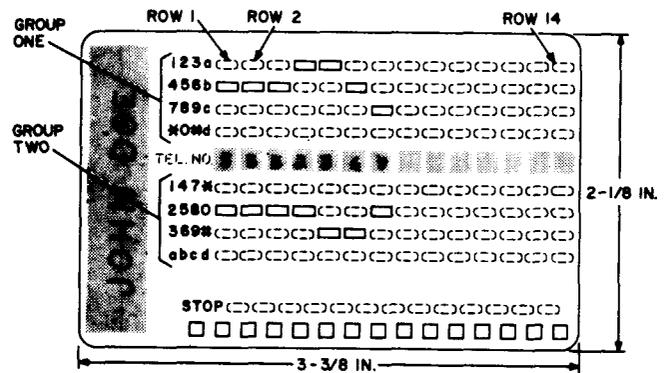

Fig. 3—Dial Card Coded for 7-Digit Telephone Number
- (1) Write name and telephone number in space provided as shown in Fig. 3 and 4.
- (2) Convert exchange letters to numbers. For example: use 2 for A, B, or C; 7 for P, R, or S; etc.
Note: There are two groups of numbers 1 through 0 on the card (Fig. 3), plus 6 special characters, *, #, a, b, c, d. **DO NOT** confuse these with exchange letters.
- (3) In Fig. 3 the first digit of the telephone number is 5. In row 1, locate digit 5 in the first group of numbers and punch out the perforation with a pencil or ballpoint pen. In the same row, locate digit 5 in the second group of numbers and again punch out the perforation.
- (4) Repeat this procedure for each digit in the telephone number. The digit 0 must be punched out in each group of numbers just as any other digit.
- (5) It is not necessary to punch a stop following the last telephone number digit, except in certain operations where transmission of a single 697 Hz frequency transmission after the last digit dialed is undesirable.
- (6) If a stop is punched after the last telephone number digit, the R bar must be operated to release the card.